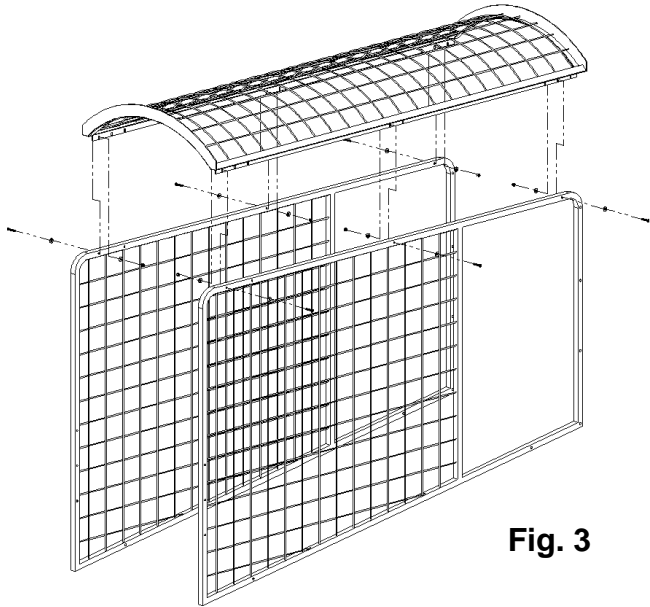

Fig. 3
- Assemble the cage framework using the two large frame sides and the top. Assemble using (6) 1/4-20 X 1 1/2" button head bolts, (12) flat washers and (6) 1/4-20 Nylock nuts. (See Fig. 3)